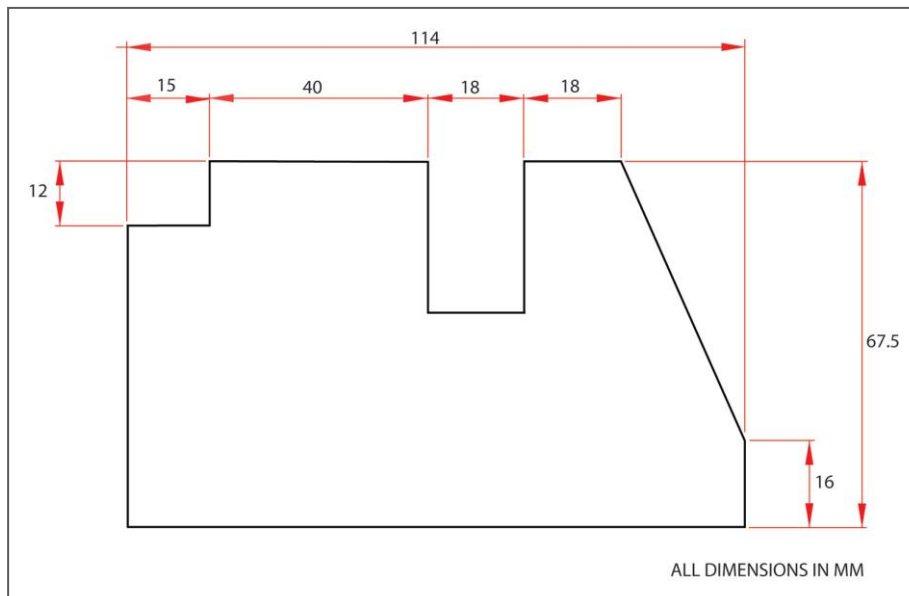

Figure 16
- Dimension numbers can be written vertically or horizontally. The selection of vertical or horizontal writing must be consistent throughout the drawing. For easy reading numbers are to be placed as read – the drawing orientation. Refer to figures 16 and 17.